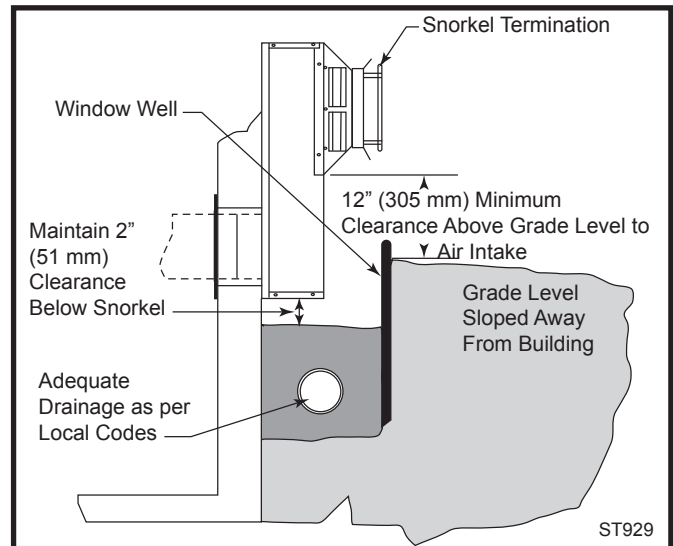

Fig. 42 Below grade installation.
1. Determine the appliance location. Refer to the appliance manufacturer's installation instructions for clearance to combustible requirements, termination options, number of elbows, maximum length, etc. Then position the appliance and plan vent routing accordingly. Consider locating the appliance in a place where there will be no interference with wall studs, electrical wiring, conduit, plumbing pipe or other obstructions. The termination should be located at least 12" (305 mm) (Fig. 42) above grade, remain above the snow line in geographical areas that accumulate snow and be away
**NOTE:** If a vertical rise is necessary on the exterior side of the building, a 14" (356 mm) and 36" (914 mm) Snorkel Termination (ST) is available. Follow the installation procedures for horizontal terminations. If the snorkel termination is to be located below grade, a window well is recommended with adequate and proper drainage as per local codes. Leave 2" (51 mm) clearance below snorkel to prevent water from entering the snorkel termination. Do not enclose the snorkel within a wall or other type of enclosure and **do not back fill**. Ensure that grade level slopes away from the building. (Fig. 42)